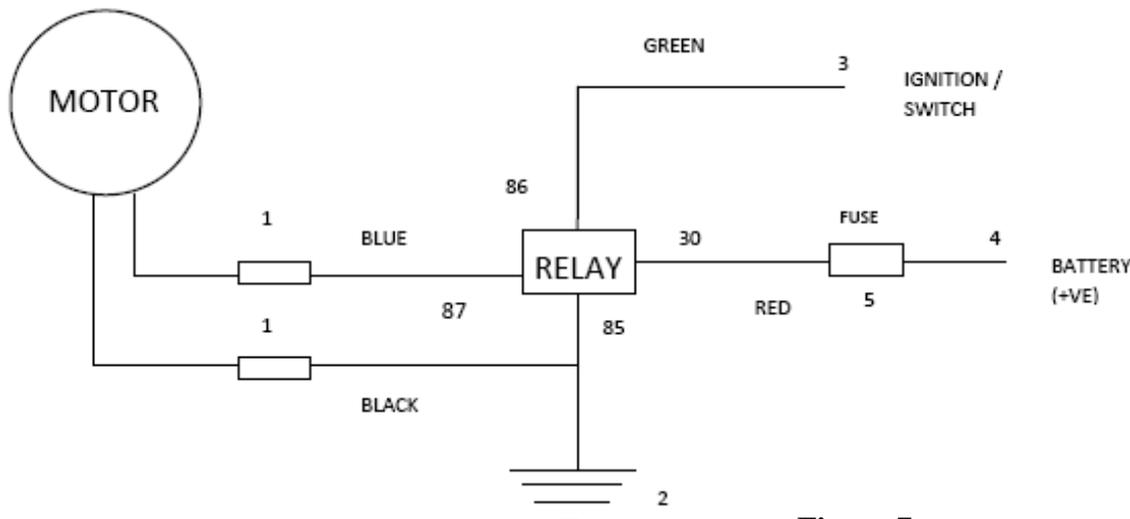

Figure 7
17. Temporarily connect the leads from the motor to the black and blue leads of the harness supplied / ignition source. Please refer to the Fan wiring diagram below. (refer fig 7)